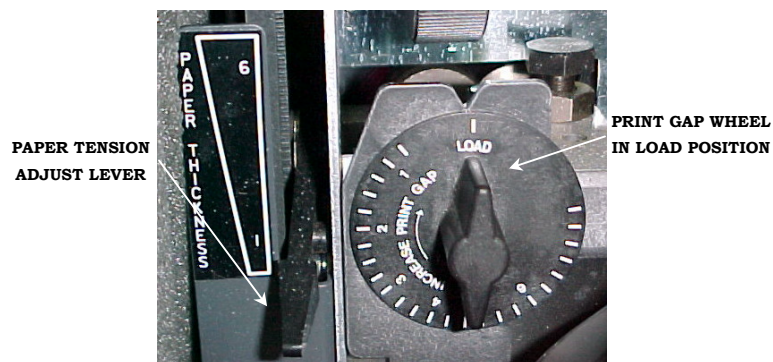

Figure 2-14 Print Gap Wheel
2. Turn the print gap wheel to the **LOAD** position by turning the print gap wheel *clockwise* until it stops. See Figure 2-14.
3. Push the paper tension adjustment lever down to position 1. See Figure 2-14.
11. Set the print gap wheel (Figure 2-14) for the paper thickness to be used (normally set to 1 for single-part thickness, 2 for two-part forms, etc.) The final adjustment will be made while printing a test pattern (page 27.)
12. Turn the print gap wheel fully *clockwise* to the **LOAD** position. See Figure 2-14.